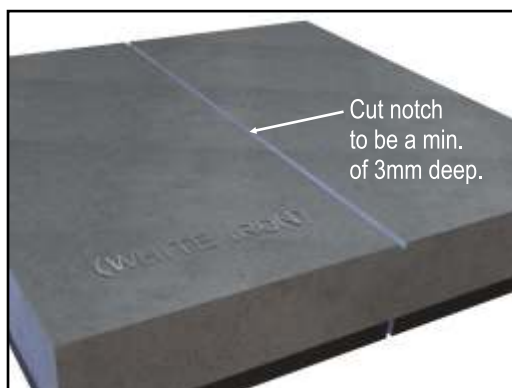

Fig. 1
3. Notch the White Iron a minimum of 3mm deep opposite the notch in the backing plate, as per Figure 1.